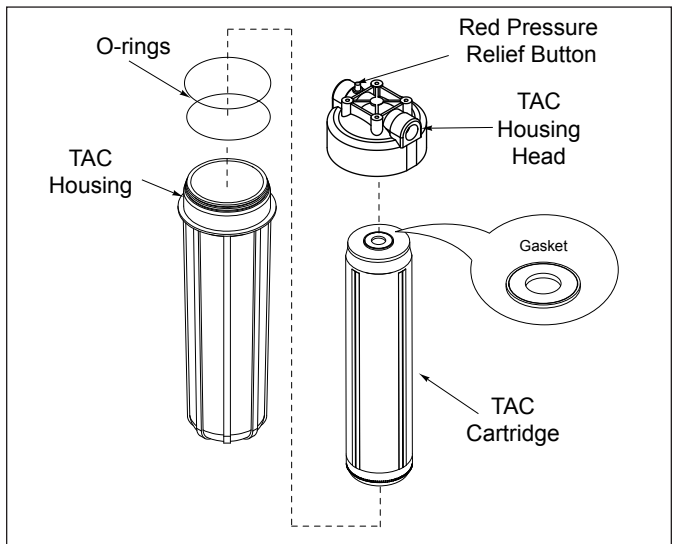

Figure 12. Replacing the TAC Cartridge
5. Empty any water into a drain and discard the old TAC Cartridge (Figure 12).
**NOTE:** Make sure the End Seal gasket is in place in the recessed groove on the top end of the TAC Cartridge (Figure 12).